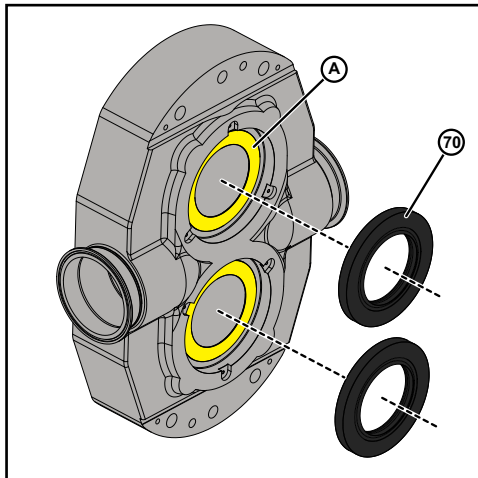

Figure 81 - Remove Lip seals
3. Remove and discard the lip seal (70) by using suitable tool like claw hammer/screw driver etc.
4. Remove the thin bead of silicone sealant (A) from the body, as shown in Figure 81.